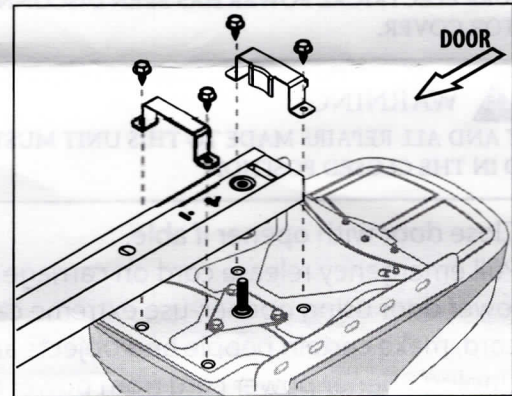

FIG. 6
9. Remove the 4 self tapping bolts from the rail/motor mounting straps and pull rail from motor head. FIG. 6. Set motor head aside. Set rail assembly on floor upside down to aid in disassembly.